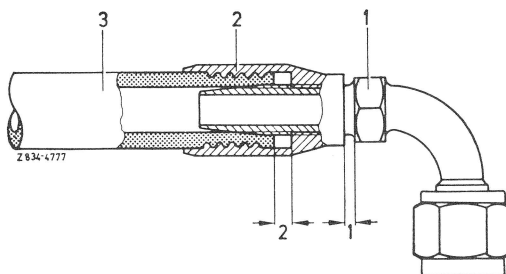

Figure 1
- 6** Lubricate inside of hose couplings (2) with refrigeration oil and thread onto hose end up to 2 mm before stop in coupling (Fig. 1).
- 7** Clamp coupling (2) with hose (3) in vice. Lubricate connection (1) of hose fittings with refrigeration oil and screw into coupling with refrigerant hose up to 1 mm before stop. Make sure that the two connections are in the same position as on the removed hose.